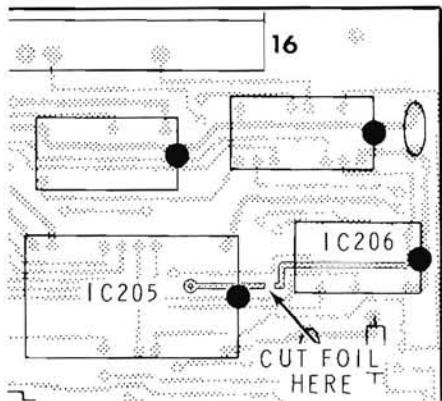

Figure 1
- ( ) Refer to Figure 1. Examine the drawing carefully then cut the foil where indicated.